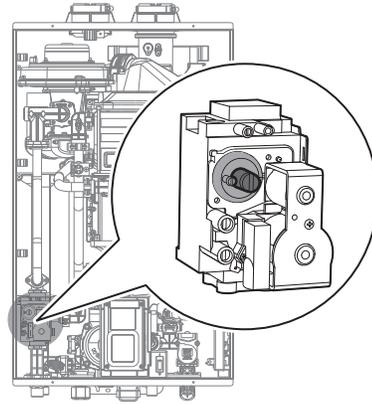

Figure 10
- c. Fully open a hot water fixture and set the water heater to operate at 1-stage MIN mode (refer to page 39). Measure the offset value at low fire and compare it to the values in Table 3. If the offset value is out of range, the gas valve set screw will need to be adjusted. If adjustment is necessary, locate the set screw as shown in Figure 10. Using a 5/32" or 4mm Allen wrench, turn the set screw no more than 1/4 turn clockwise to raise or counterclockwise to lower the offset value.